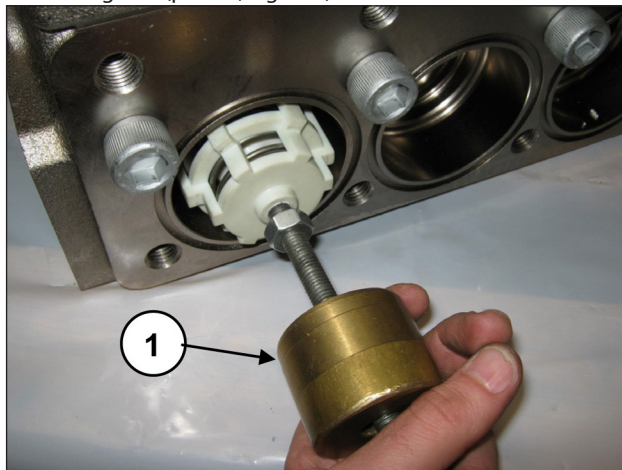

Fig. 138
Extract the suction valve unit with the use of an extractor hammer (code 27516400) to be applied on the M10 hole of the valve guide (pos. ①, Fig. 138).